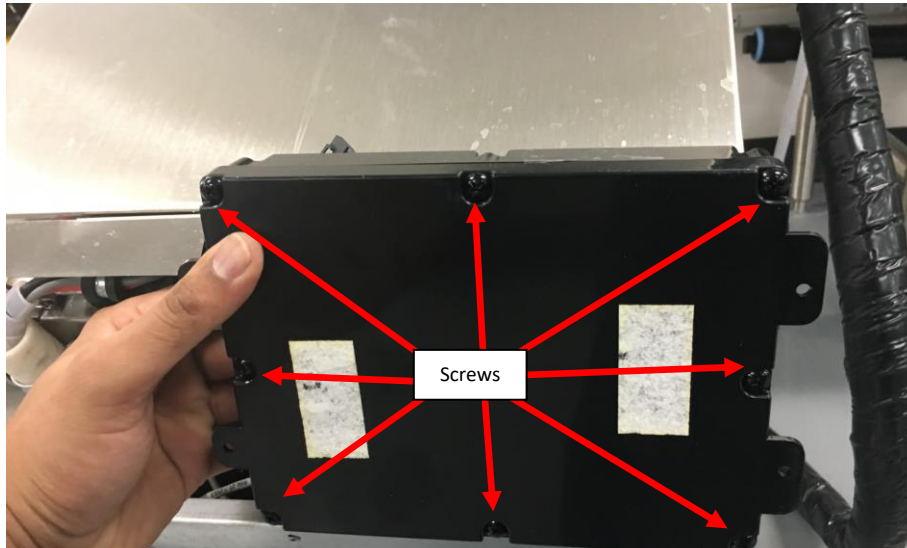

Figure K3: Control Board Enclosure screws shown.
3. Unscrew the fasteners connecting the two halves of the Controller Board Enclosure. These screws will be found on the underside of the Control Board Enclosure. See Figure K3.